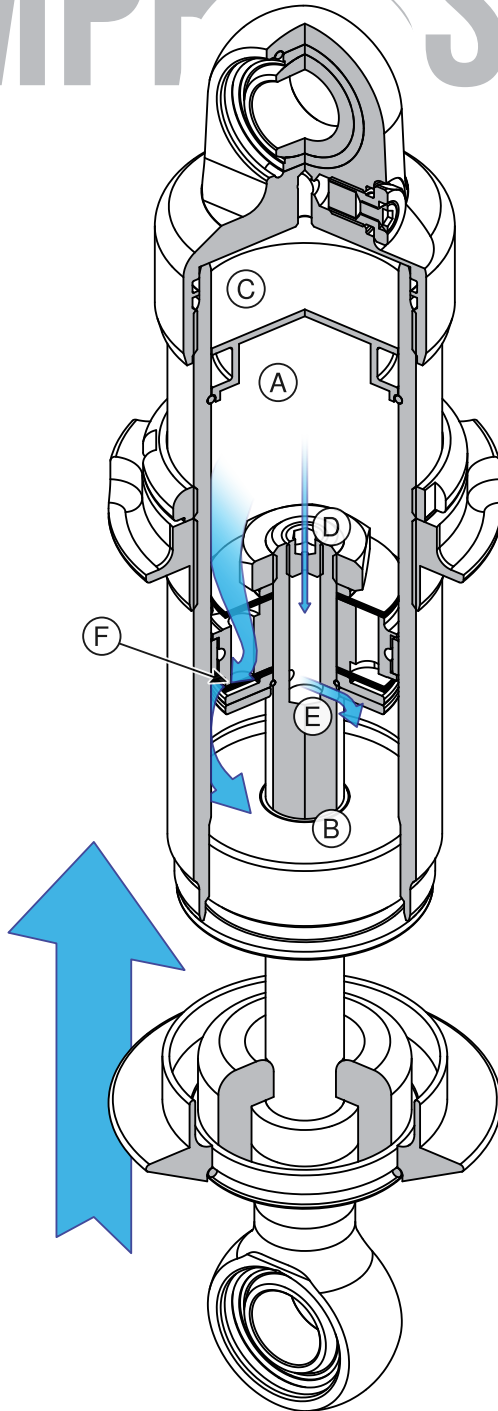
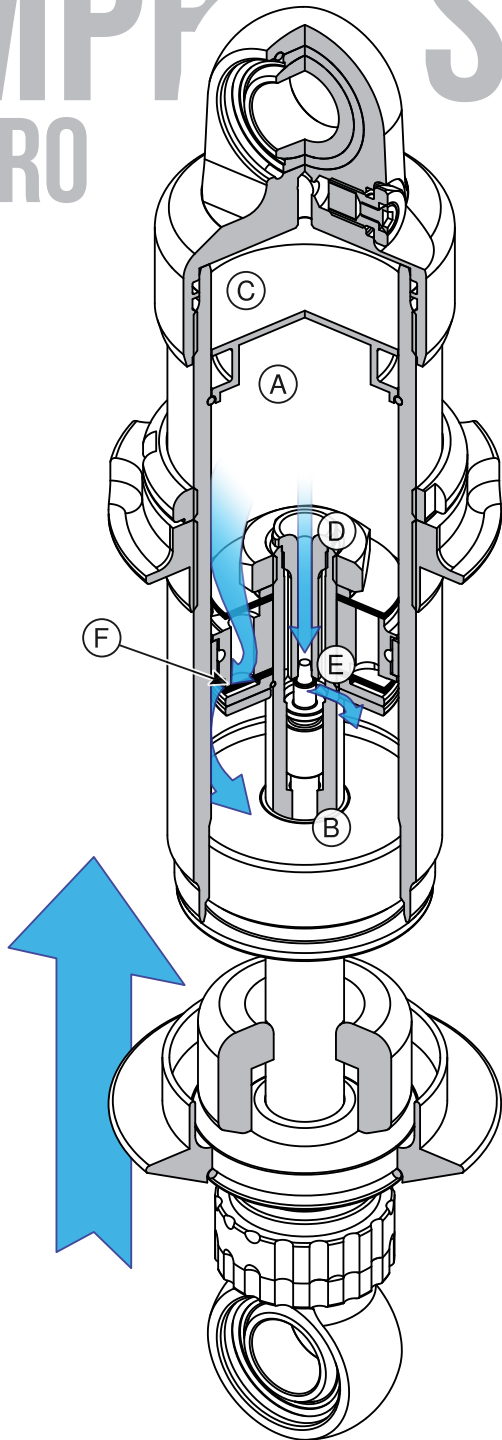
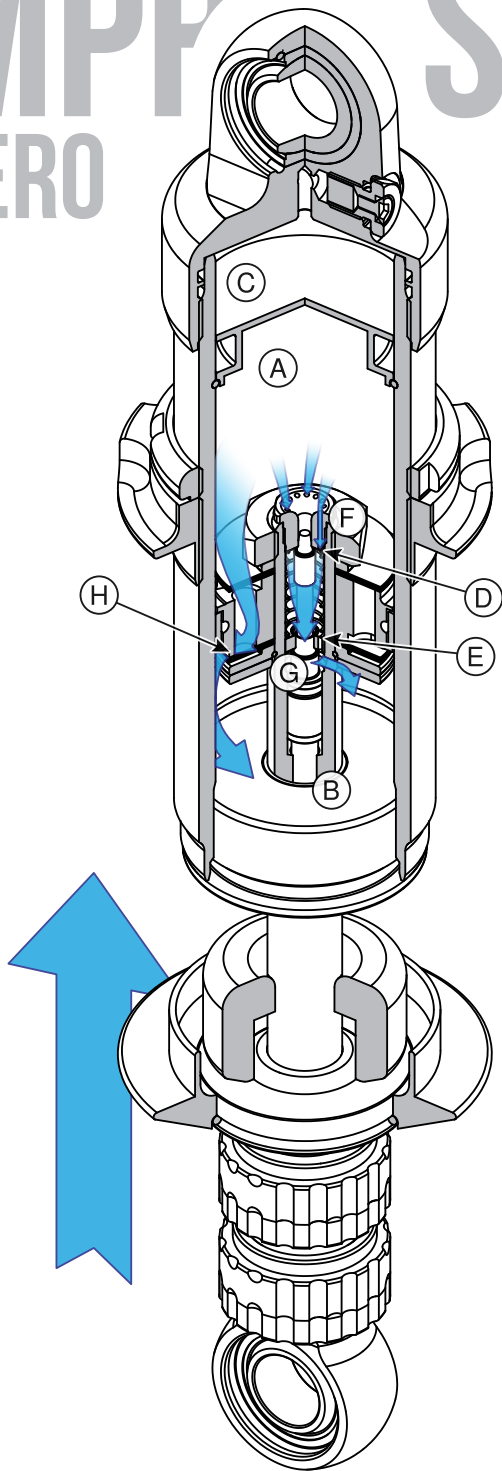

FIG. 2-1
FIG. 2-3
FIG. 2-5
The inside of the shock absorber can be divided into three chambers: the compression chamber (Fig. 2-1.A, Fig. 2-3.A, Fig. 2-5.A), the rebound chamber (Fig. 1.B, Fig. 2-3.B, Fig. 2-5.B) and the gas chamber (Fig. 2-1.C, Fig. 2-3.C, Fig. 2-5.C).
Oil flows through the jet (Fig. 2-1.D) and into the rebound chamber via cross-drillings in the shaft (Fig. 2-1.E).
Oil flows through the jet (Fig. 2-3.D) and around the needle (Fig. 2-3.E). It enters the rebound chamber via cross-drillings in the shaft.
i. Two.Zero: Negative pressure inside the rebound chamber causes the RD check shim to open (Fig. 2-5.D) and the CD check shim to close (Fig. 2-5.E). Oil flows through drillings in the perimeter of the RD jet (Fig. 2-5.F), bypassing the RD needle. A restriction occurs where the oil passes between the CD needle and
its jet (Fig. 2-5.G). The oil enters the rebound chamber via cross-drillings in the shaft.
Oil flows around the rebound-damping valve stack and through the piston. A build up of pressure on the back of the compression-damping valve stack causes the valve stack to deflect (Fig. 2-1.F, Fig. 2-3.F, Fig. 2-5.H) and the oil enters the rebound chamber.